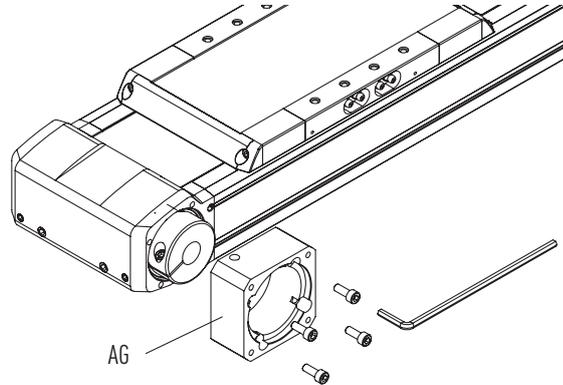

Fig. 6.77 Mounting the gear adapter plate AG
- ▶ Attach the gear adapter plate AG so that it lies flat. (see Fig. 6.77). In doing so, note the position of the hole for the clamping hub's clamping bolt.